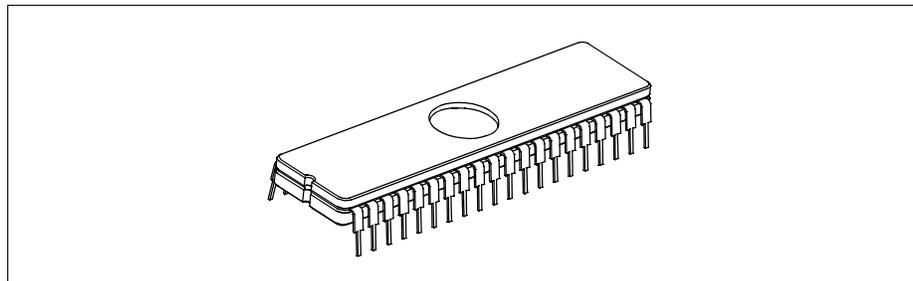

Figure 5.5: Windowed Device
1. Remove any labels covering the device window. If you do not have a windowed device (Figure 5.5), you cannot reprogram it. A windowed version of all EPROM devices may be ordered by requesting the JW package.